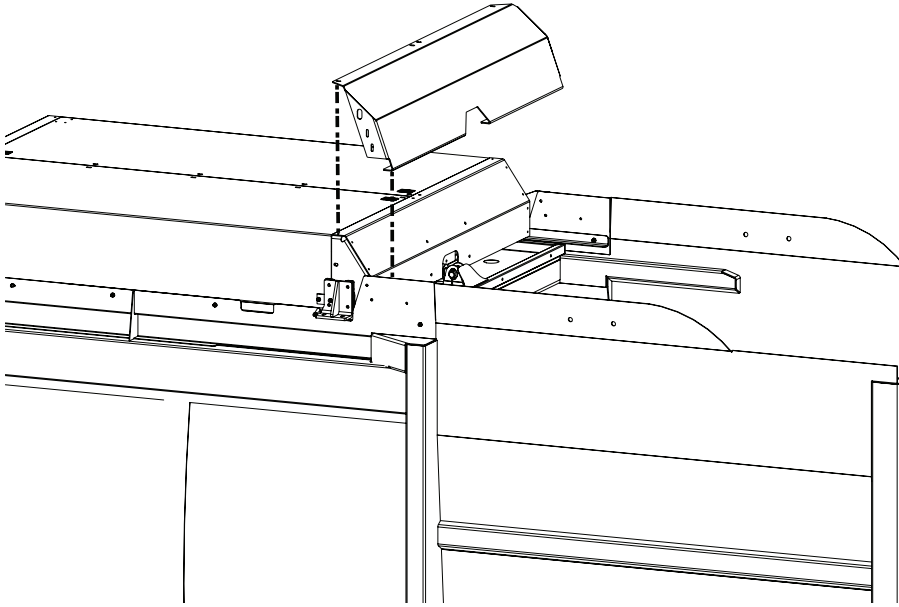

Figure 3
6. Move the refuse deflector weldment into position at the roof mounted CNG system (Figure 3). Position the weldment so the bolt holes across the top align with the bolt holes on the top of the CNG system cover.
16. Reinstall the refuse deflector weldment (Figure 3).